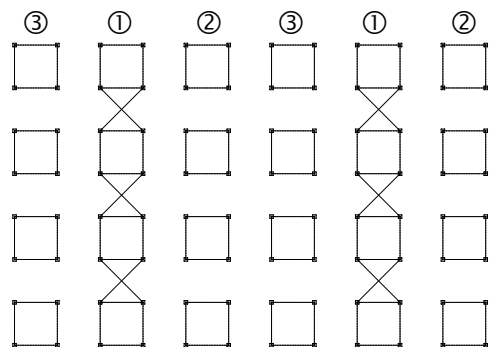

Fig. 18.4 Diagonal cross-braces for towers that are 6,00 to 9,00 m high
- Towers that are 6,00 to 9,00 m high require two diagonal cross-braces at height 5,90 m (Fig. 18.4).